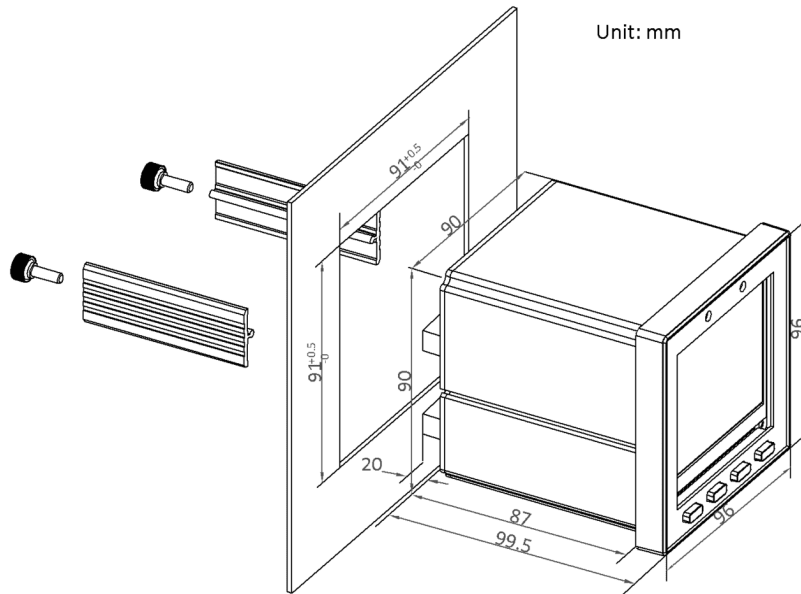

Figure 2-5 Panel Cutout
- Fit the meter through a 92mmx92mm cutout as shown in Figure 2-5